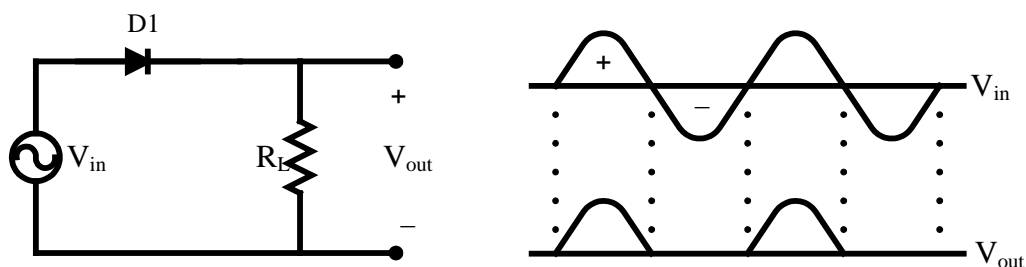

Figure 6-3-1: Diode half-wave rectifier and rectifier waveforms.
2. Figure 6-3-1 shows a **half-wave rectifier** circuit. The output of a half-wave rectifier is positive or zero depending on whether the input is positive or negative, respectively, as shown in Figure 6-3-1.
3. For the half-wave rectifier shown in Figure 6-3-1, the average of the input voltage V_{in} is zero. The average value of the output voltage is